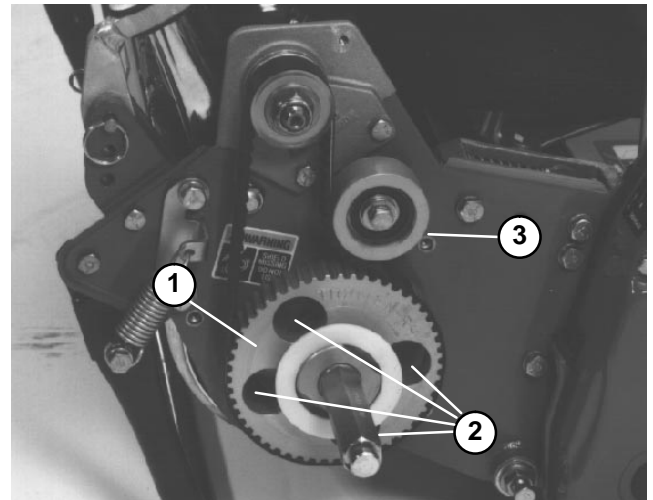

Figure 7
7. Rotate drive pulley until holes align with all four roller bearing flange screws (Fig. 7).
8. Loosen all four roller bearing screws and screw securing idler pulley. Raise or lower right side of drum assembly until the gap is reduced to less than 0.010 inch (0.254 mm). Torque drum bearing cap screws from **16 to 20 ft-lbs (2.2 to 2.8 kg-m)** (Fig. 7). Adjust belt tension and tighten idler pulley mounting screw (see Drive Belt in Adjustments section of Chapter 4 – Traction and Reel Drive System).